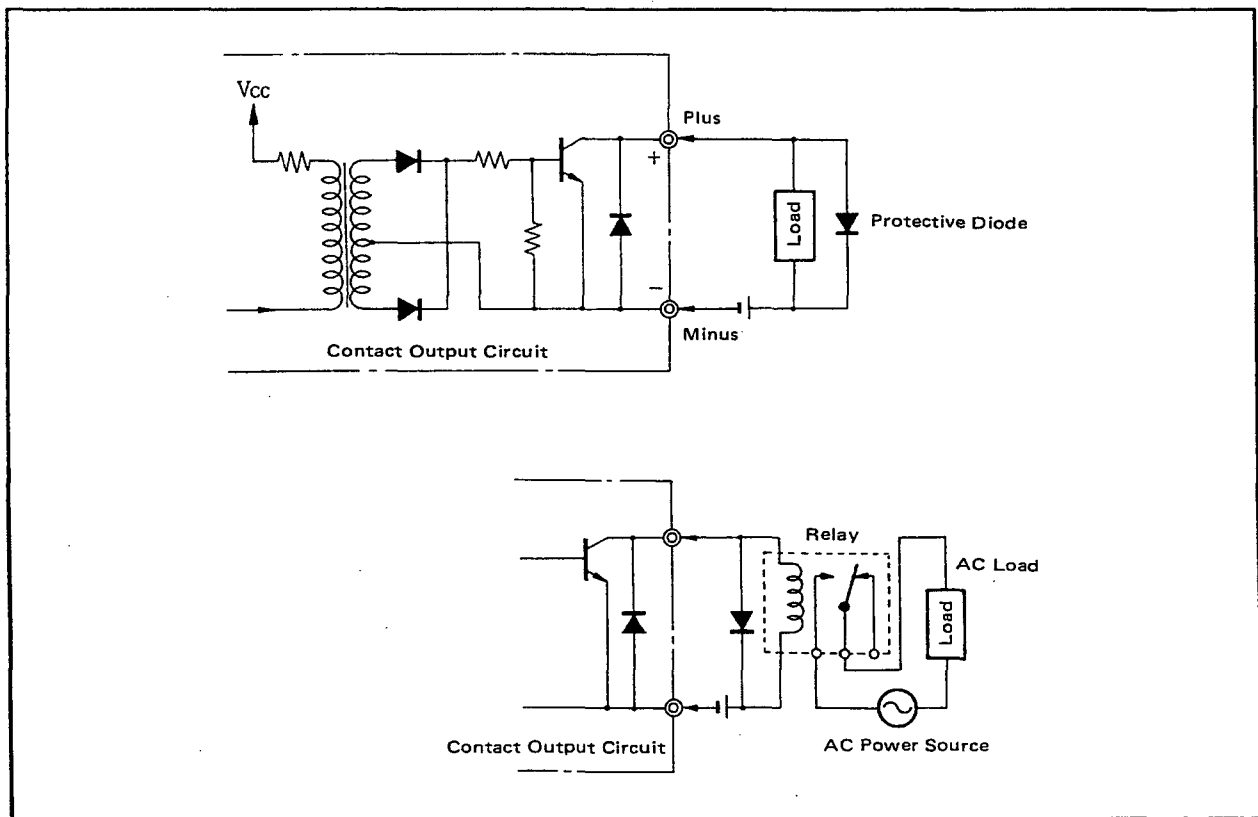

Figure 3-3. Connecting the Contact Output.
- (1) Furnish all cable ends with solderless crimp-on type lugs for terminal connections.
- (2) Use the input contacts within the ratings. Avoid using high resistance leadwires in order to avoid an excessive voltage drops in the conductor. Insure that the input signal is connected with the correct polarity. For the input contact specifications, refer to the general specifications at the end of this manual.
- (3) Fail output and digital output are by transistor switch contacts (isolated type). When connecting to the external unit, observe the following procedures (See Figure 3-3):